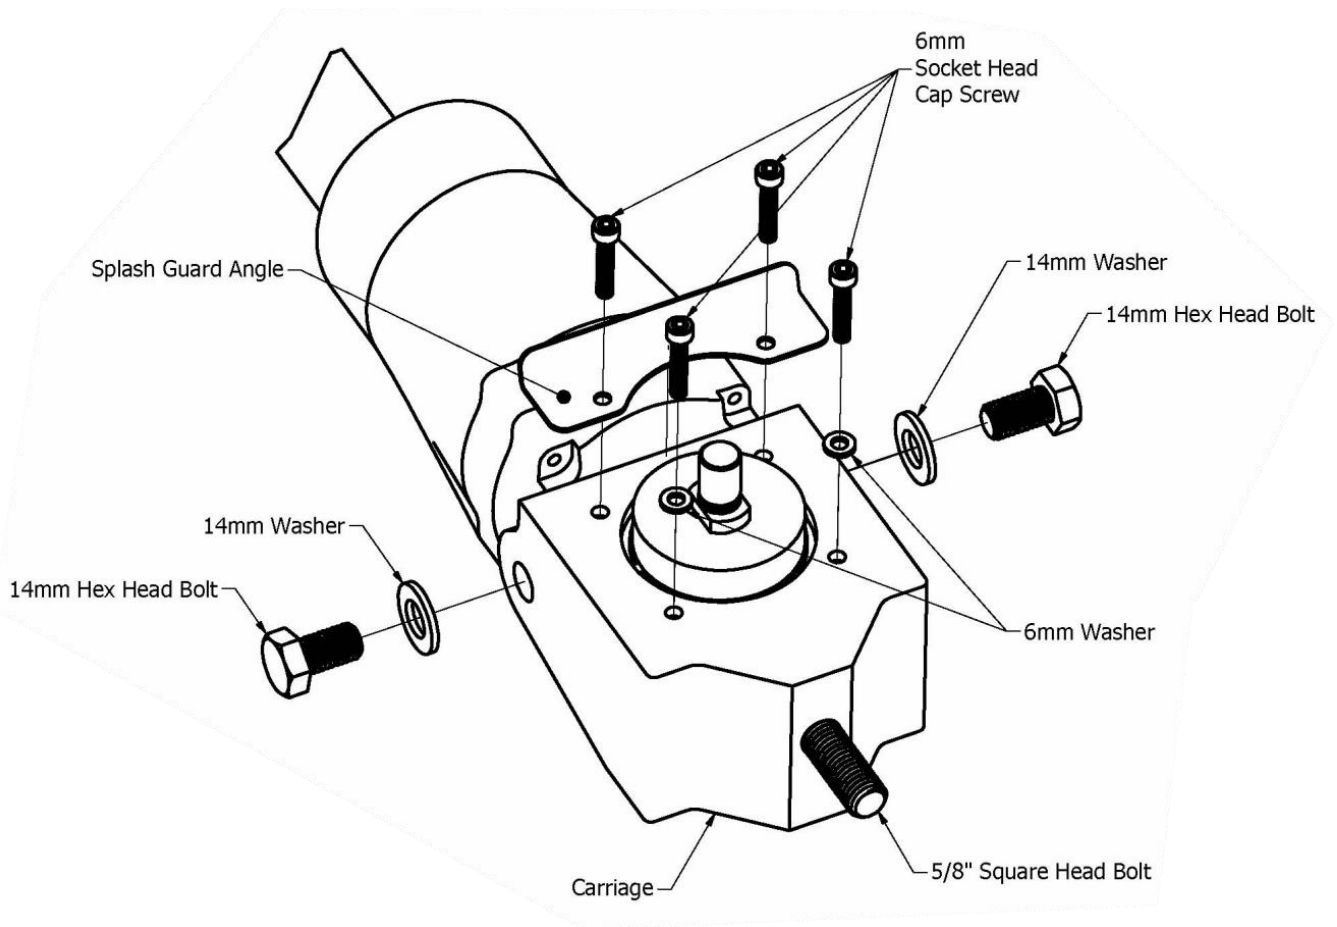

FIGURE 4 - Install Grinder into Carriage
6. With the 5/8" bolt inserted into the carriage, place the carriage over the head of the grinder (see Figure 4).
7. Using a 5mm Allen or hex wrench, install quantity (2) of the supplied 6mm socket head cap screws through the splash guard angle, and through the carriage holes closest to the grinder body and thread them into the grinder head holes exposed in step 4 above (see Figure 4). Do not tighten until all screws and bolts have been started.
8. Using a 5mm Allen or hex wrench, install quantity (2) of the supplied 6mm socket head cap screws and 6mm washers through the remaining carriage holes and thread them into the remaining grinder head holes exposed in step 4 above (see Figure 4). Do not tighten until all screws and bolts have been started.
9. Using a 22mm open end wrench or Crescent wrench, install quantity (1) 14mm hex head bolt and 14mm washer through the large holes on the side of the carriage and into the threaded holes on the side of the grinder head. Install these bolts on both sides of the carriage. Do not tighten until all screws and bolts have been started.
Do not let water into the motor of the electric grinder. Water inside the machine will weaken the electrical insulation of the motor and may result in electric shock. Ensure the splash guard angle is installed at all times during use (see Figure 4).